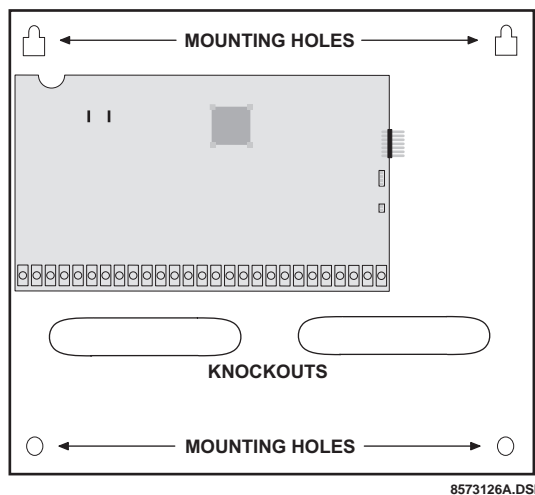

Figure 2. Mounting the Panel
1. Open the panel door and remove the necessary wiring knockouts (see Figure 2). Be careful not to damage the circuit board.
3. Level the panel and mark the top and bottom mounting holes (see Figure 2).